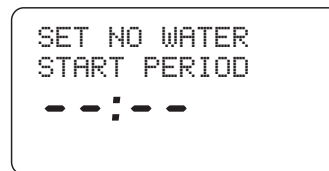

Figure 20: Display - No Water Period
- Press the **RAIN DELAY** button once. [See Figure 20]